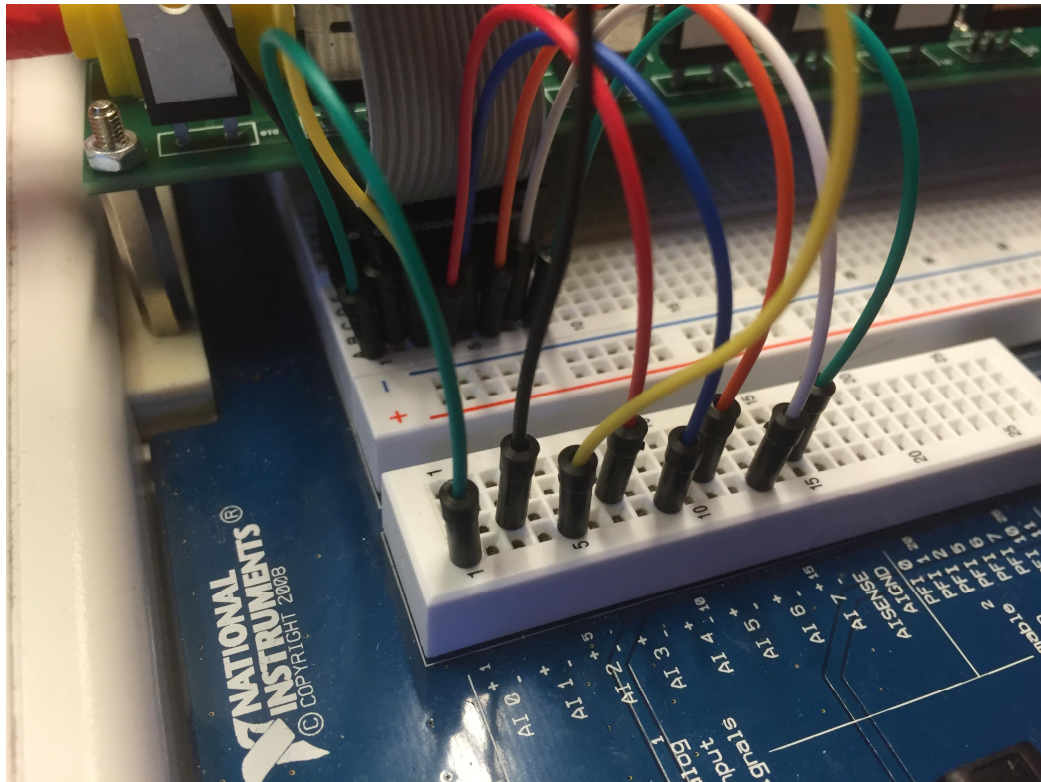

Figure 21 Setup of measurement interface to the ELVIS analog input: AI 0-7
3. Connect the flat cable (8pole) for the analog measurements from the FB-Inverter board to the upper left part of the ELVIS prototyping board, where the 8-pin connector is plugged in order to make room for wiring according to the next step (see Figure 21). The left side of the flat cable as plugged into the board shall be facing to the top (AI 0) on the ELVIS board.
4. Make wire connections to the analog inputs the positive poles of AI0 to AI7 from the eight rows of the upper left part of the ELVIS prototyping board corresponding to the pins from the flat cable (see Figure 21).